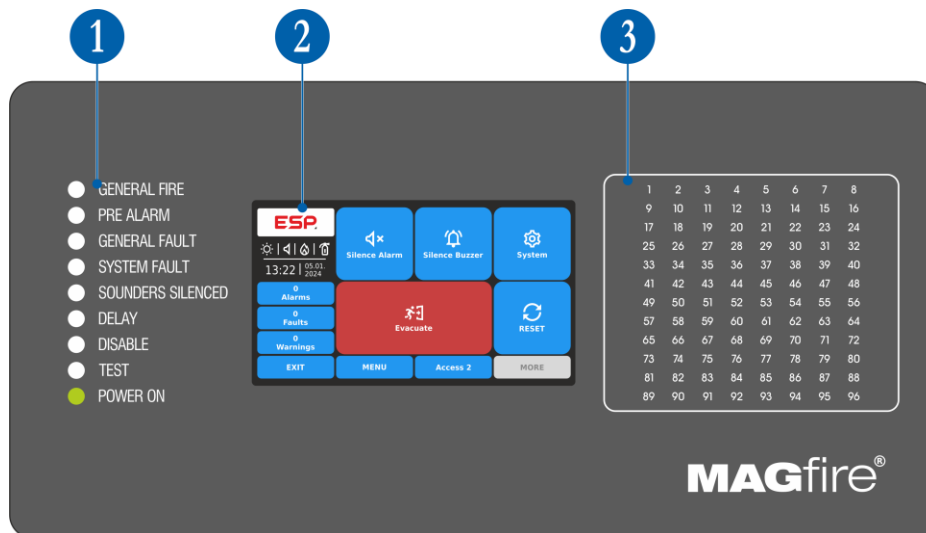

Figure 12
The front panel of MAGPRO9601 presents detailed information of the current system status (1) and activated zones (3) via LED indication. The operation, control and programming of the panel is via the 5 inch TFT screen (2) – Figure 12.